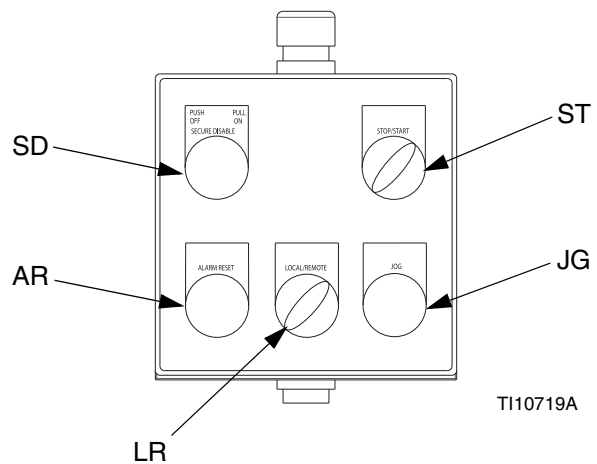

FIG. 5: Local Control Box
The local control box contains five controls. See FIG. 5.
1. Set START/STOP switch (ST) to STOP. See FIG. 5.
2. Push in SECURE DISABLE (SD) switch.
3. Open the back pressure regulator (U) and all fluid drain valves in the system, having a waste container ready to catch drainage. Leave open until you are ready to pressurize system again.
3. Set START/STOP switch (ST) to STOP. See FIG. 5.
2. Use the VFD to set motor to a low flow (approximately 15 Hz). Adjust as needed. See VFD manual 311596 for specific flow set procedure. See FIG. 5.
3. Push in SECURE DISABLE (SD) switch. See FIG. 5.
4. Set START/STOP switch (ST) to STOP. See FIG. 5.
5. Pull the SECURE DISABLE switch (SD) out to disengage it. See FIG. 5.
7. Set START/STOP switch (ST) to START. The speed will ramp up; it is not an immediate change. See FIG. 5.